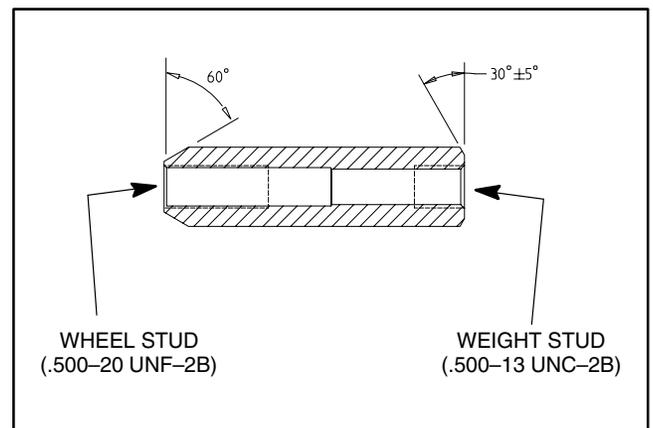

Figure 3
B. Secure wheel to machine with four (4) lug nuts. Torque lug nuts from 45 to 55 ft-lb (61 to 75 N-m).
A. If weight studs were removed from wheel weight adapters, thread studs fully into the correct end of the adapter (Fig. 3).
C. Secure wheel to machine with two (2) lug nuts and two (2) wheel weight adapters. Torque wheel fasteners from 45 to 55 ft-lb (61 to 75 N-m).
E. Secure wheel weight with two (2) thrust washers and lock nuts.